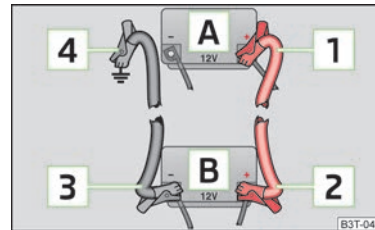

Fig. 178
- Attach one end [1] » Fig. 178 to the positive terminal of the discharged battery [A].
- Attach one end [3] » Fig. 178 to the negative terminal of the battery supplying the power [B].